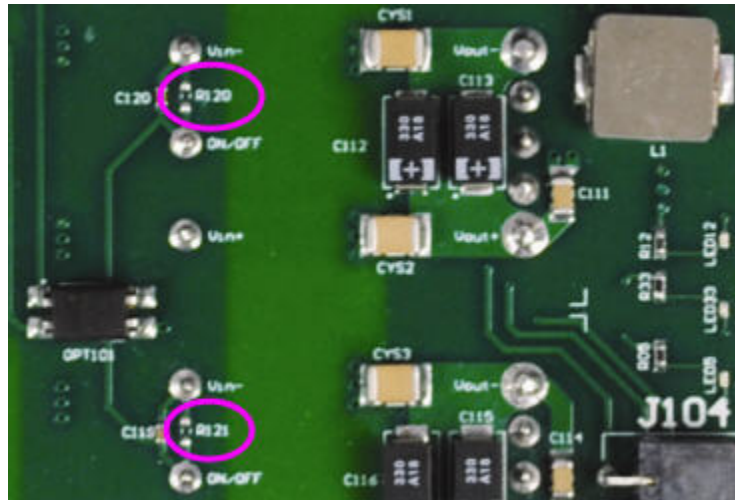

Figure 5. R120 and R121 Enable Remote Power-On Control
1. Remove R120 and R121 (see Figure 5 for location).